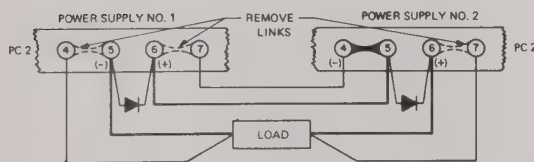

FIG. 3-11 SERIES CONNECTION OF PCX SUPPLIES
- 3-41 General. Kepco PCX–MAT Modules can be series connected for increased voltage output, provided the specified limits on voltage to chassis are not exceeded. When series-connected, the supplies should be protected by means of a semiconductor diode across the output terminals of each power supply, as shown in FIG. 3-11. The peak inverse rating of these diodes must be at least as large as the output voltage of the supply to which they are connected. The continuous current rating of the diodes should be at least as great as the largest short-circuit current of the interconnected supplies.
- Connect load as shown in FIG. 3-11. Keep voltage drop in load wires as low as practical by using heavy gauge wire.